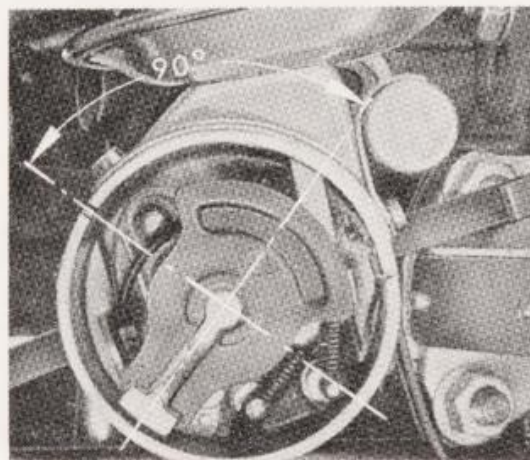

Fig. A-4. Turn crankshaft to move rotor 90 deg. to reposition engine for valve adjustment.
- 90 deg. and placing engine in position for checking clearance of valves of cylinder No. 2, Fig. A-4. Repeat steps 1, 2, 3, and 4.